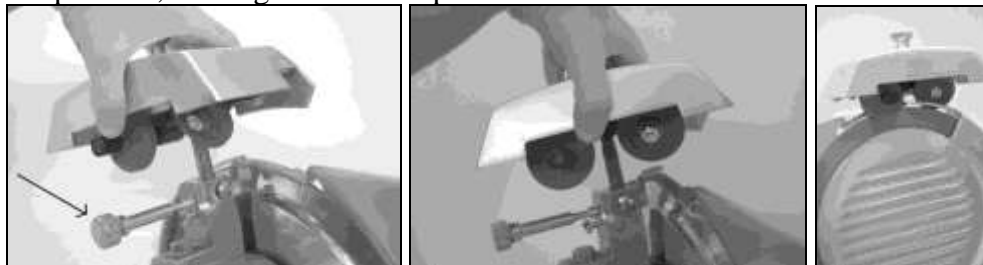

Figure 8 – Sharpening: a) Dismounting; b) rotation; c) positioning of the sharpener
- Loosen sharpener release knob (Fig 8, a);
- Lift the sharpener cover, do not remove it, and rotate 180 ° (Fig 8, b);
- Lower sharpener into position, with the blade fitting between the two stones and tighten the sharpener release knob to secure the sharpener. Ensure not to touch the blade with the stones (Fig 8, c);
- Loosen sharpener release knob (Fig 8, →);
- Loosen the sharpener release knob (Fig 8, →) and pull the sharpener up to remove it;